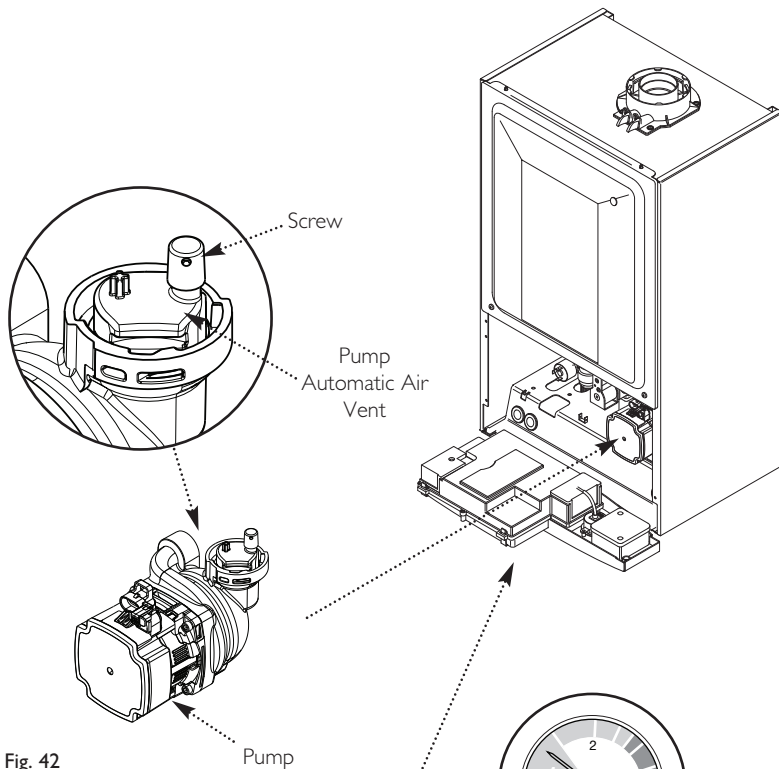

Fig. 42
6. Open the screw on the automatic air vent on the pump body (Fig. 42).